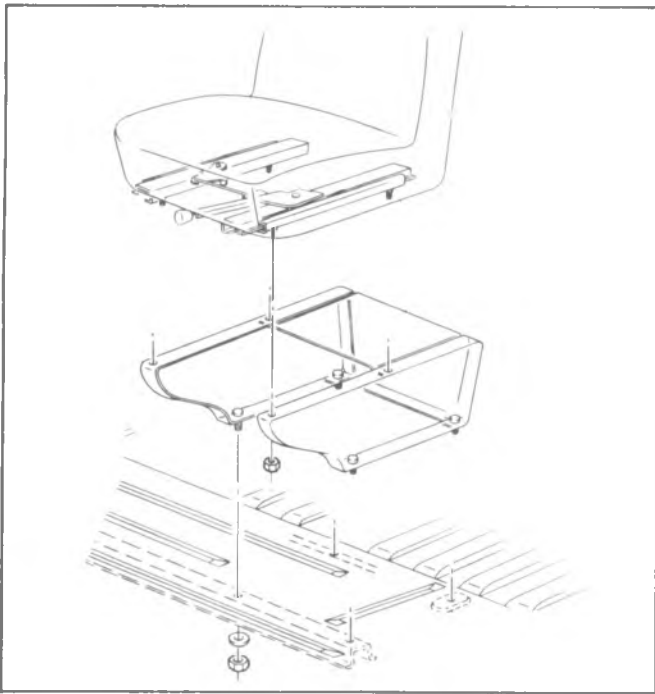

Fig. 2D-129--Driver's Seat
1. Remove seat and brackets from seat riser. See figure 2D-130.